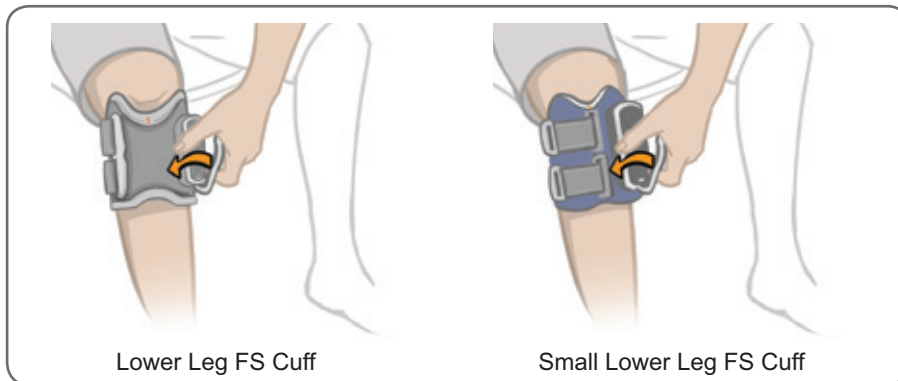

Figure 6-13: Fastening the Lower Leg FS Cuff Strap
4. Grasp the handle of the lower leg FS Cuff strap. See Figure 6-13. With your thumb on the FS Cuff cradle, fasten the strap handle around the cradle. With If using the small lower leg FS Cuff, you may need to use your other hand to stabilize the cuff on the leg.